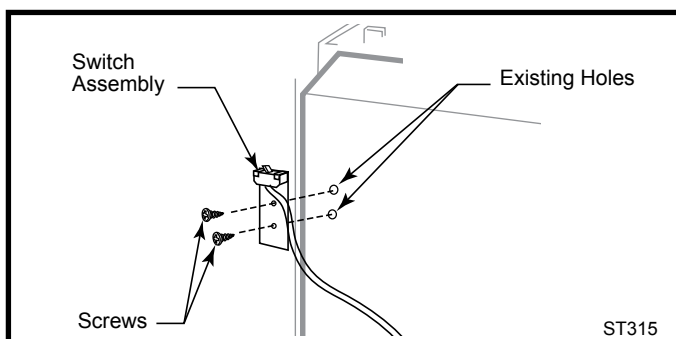

Figure 50 Attach switch assembly to rear shroud.
1. Attach switch assembly to left rear side of stove shroud (when facing shroud) using two screws and existing holes in shroud. (Figure 50)